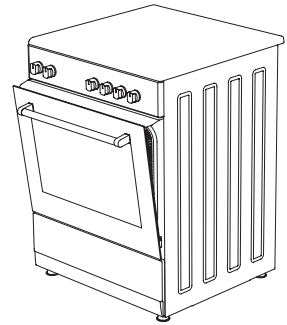

Figure 11
4. And then secure the safety panel in between oven and front cover by gently closing the cover. (figure 11)